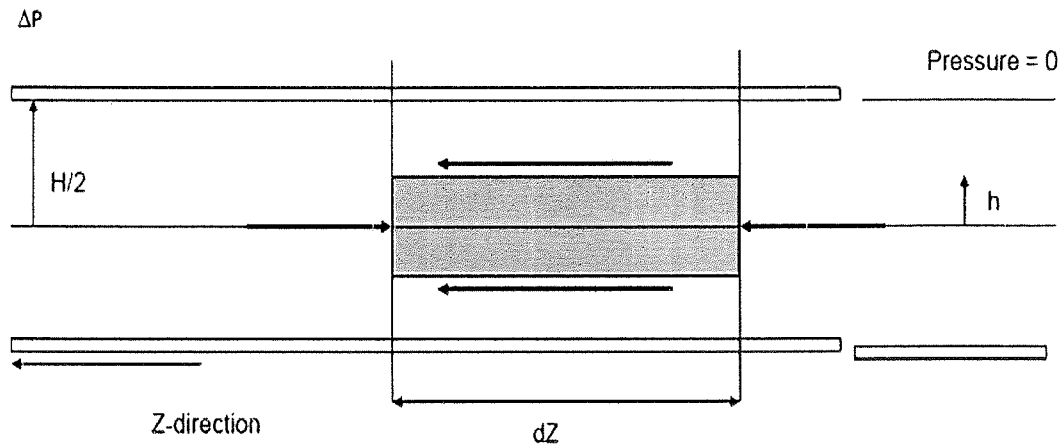

Figure 3: Illustration of Newtonian fluid flowing between two parallel plates.
- (b) (i). Figure 3 illustrates an incompressible, Newtonian fluid flowing between two parallel plates. Draw balances of forces and pressure on a fluid element moving between two parallel plates and state general assumptions need to be made to derive quantitative relationships of the shear stress and shear rate for the Newtonian fluid between two parallel plates.